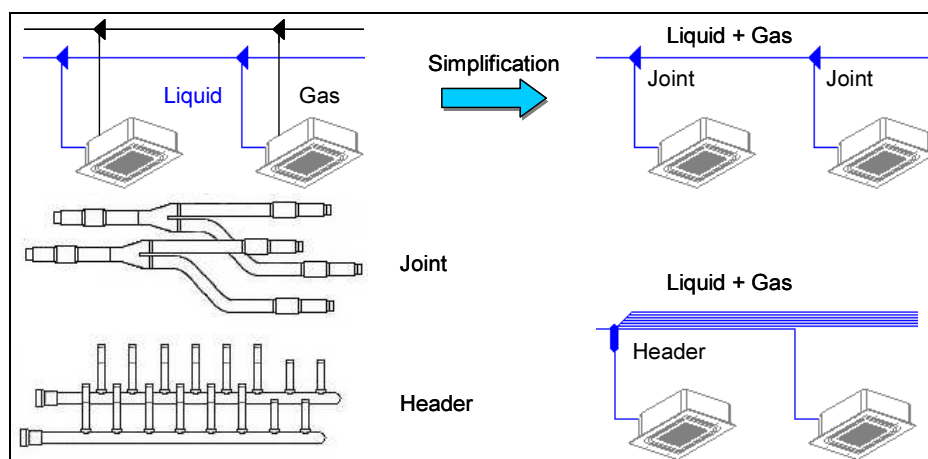

Figure 6: Joint and header piping connections
The piping connects indoor units to their outdoor unit with refnet connections in between. An indoor unit connects two pipes to its outdoor unit: a liquid and a pipe. In cooling mode, the liquid refrigerant enters the indoor unit, where it expands while extracting heat from the room and exits the indoor unit as a gas. Figure 6 at the top left shows a part of a piping diagram connecting the gas and liquid pipes of two indoor units through a joint connection. For large systems drawing those two pipes would make the diagram difficult to read. So, a simplification is drawing both pipes as one connection, as shown in Figure 6 at the top right.
1. **Joints** (see Figure 6 in the middle left), having two inputs connecting two devices or two piping pieces and one output.
2. **Headers** (see Figure 6 at the bottom), having several inputs (typically 8) and one output.